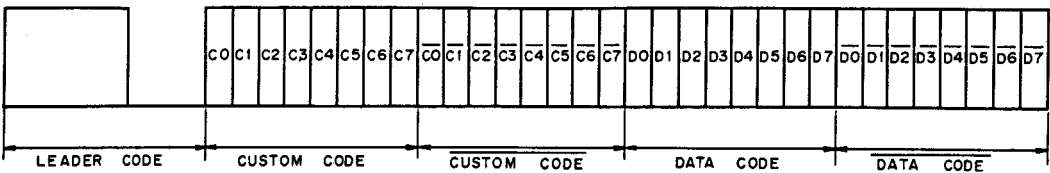

Fig. 4-11 Format and Data Structure of the Remote Control Signal
- The signal format must conform to that of  $\mu$ PD6102G. (See figure 4-11.)
The remote control signal is received at the remote control signal receiver section of the SA-V70, and sent through the SA-V70's internal wave-form shaping circuit and buffer to the REM IN terminal of the PL-V70. The data is then applied via a protection circuit made up of D15 through D17, to pins 7 and 21 of Q2. The input signal pattern at this stage is as shown in figure 4-11. This signal is decoded by Q2(PDE003) into the logical format described in figure 4-12 and output to Q1 (PD 6037), the system control IC. The signal is sent for at least 96 msec. If you keep pressing the commander key, however, the signal is continuously sent from Q2 until the commander key is released.